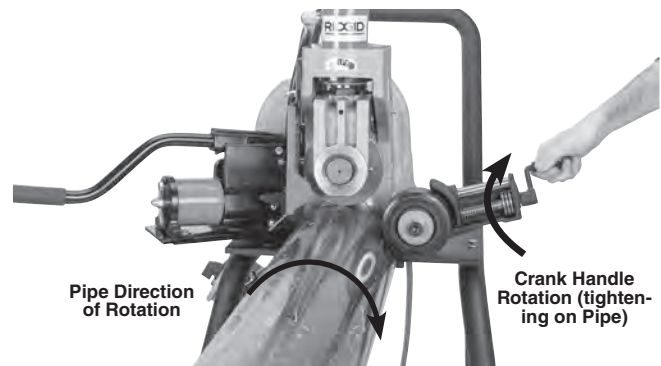

Figure 15 – Offsetting the Pipe $\frac{1}{2}^\circ$, (Exaggerated)
3. Rotate the stabilizer crank handle to bring the roller in contact with the pipe. Rotate the crank handle an additional one (1) turn to preload the roller against the pipe (*Figure 15*). Do not reach across the pipe to adjust the stabilizer.
4. Assume a proper operating position to help maintain control of the machine and pipe (*See Figure 15*).